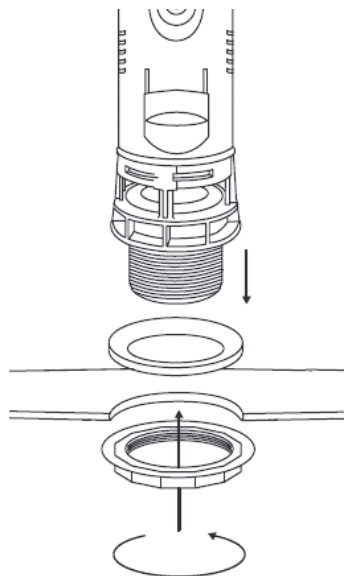

Fig. 2
2. Remove the backnut from the flush valve (E). Insert the flush valve into the hole in the base of the cistern (B) ensuring that the rubber washer is on the inside of the cistern and secure using the backnut. (See **Fig. 2**).